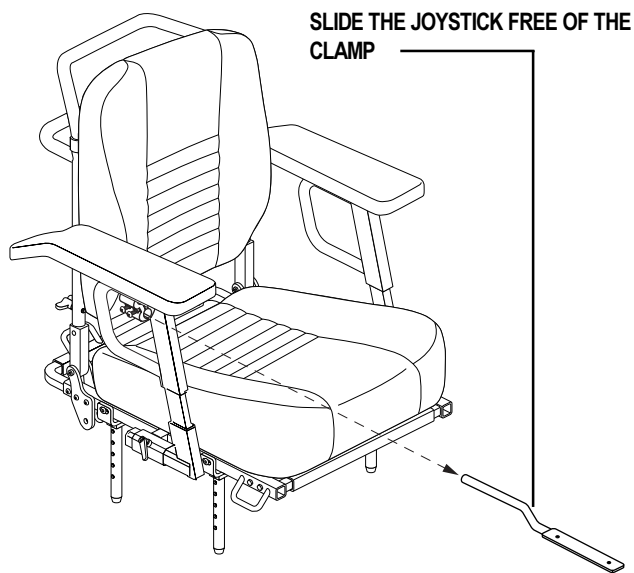

Figure 11. Joystick Removal
2. Slide the joystick free of the loosened clamp assembly. See figure 11.